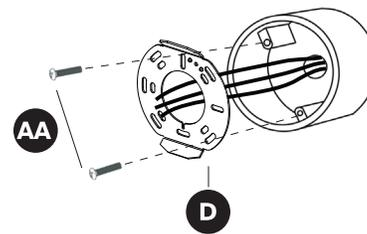

Fig.2.
2. Route the junction box wires through the large center hole in the mounting bracket (D). Align the holes on the mounting bracket (D) with the holes of the junction box. Use two #8 screws (AA) to secure it. (fig. 2)